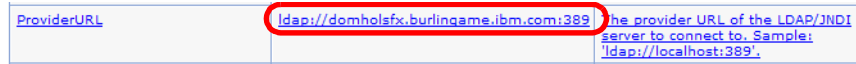

Figure 11-26 LDAP provider URL
- ▶ Select the property *ProviderURL* and change the value of the hostname from localhost to your LDAP server (Figure 11-26):